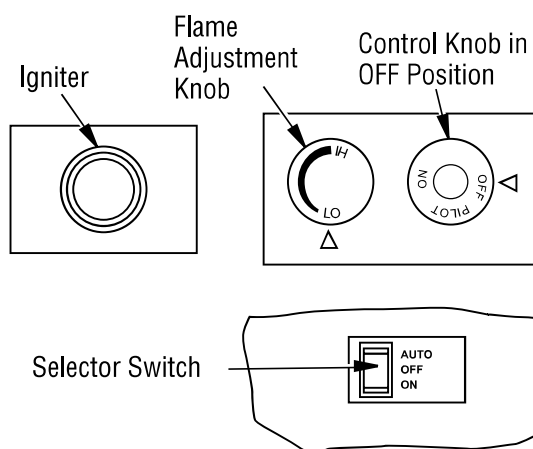

Figure 69 - Control Knob, Igniter Button and AUTO/OFF/ON Switch
4. Press in and turn control knob clockwise  to the OFF position (see **Figure 69**).